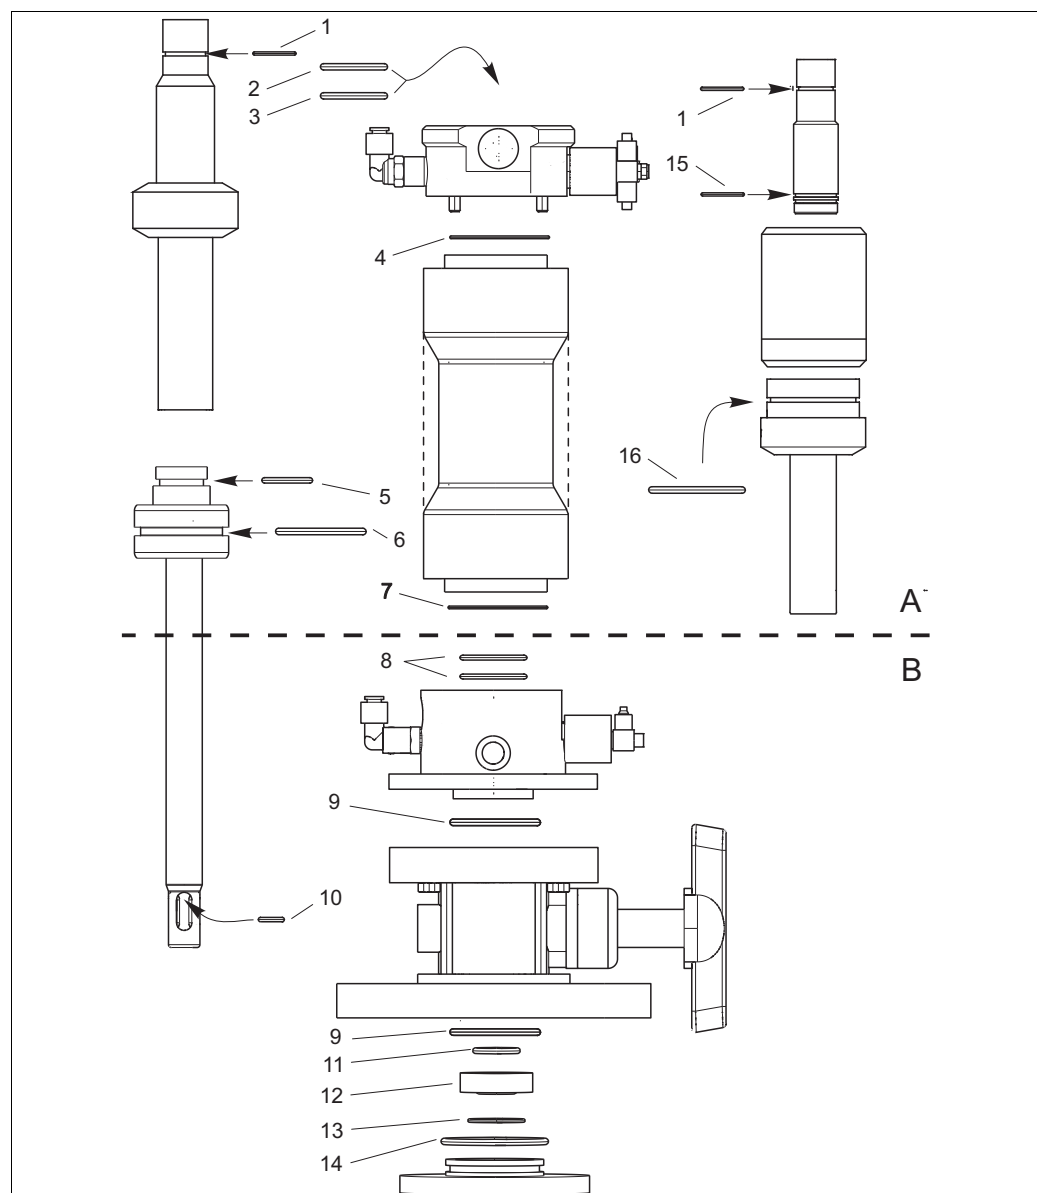

Abb. 39: Position of the seals
2. Replace the seals as shown in Fig. 39.